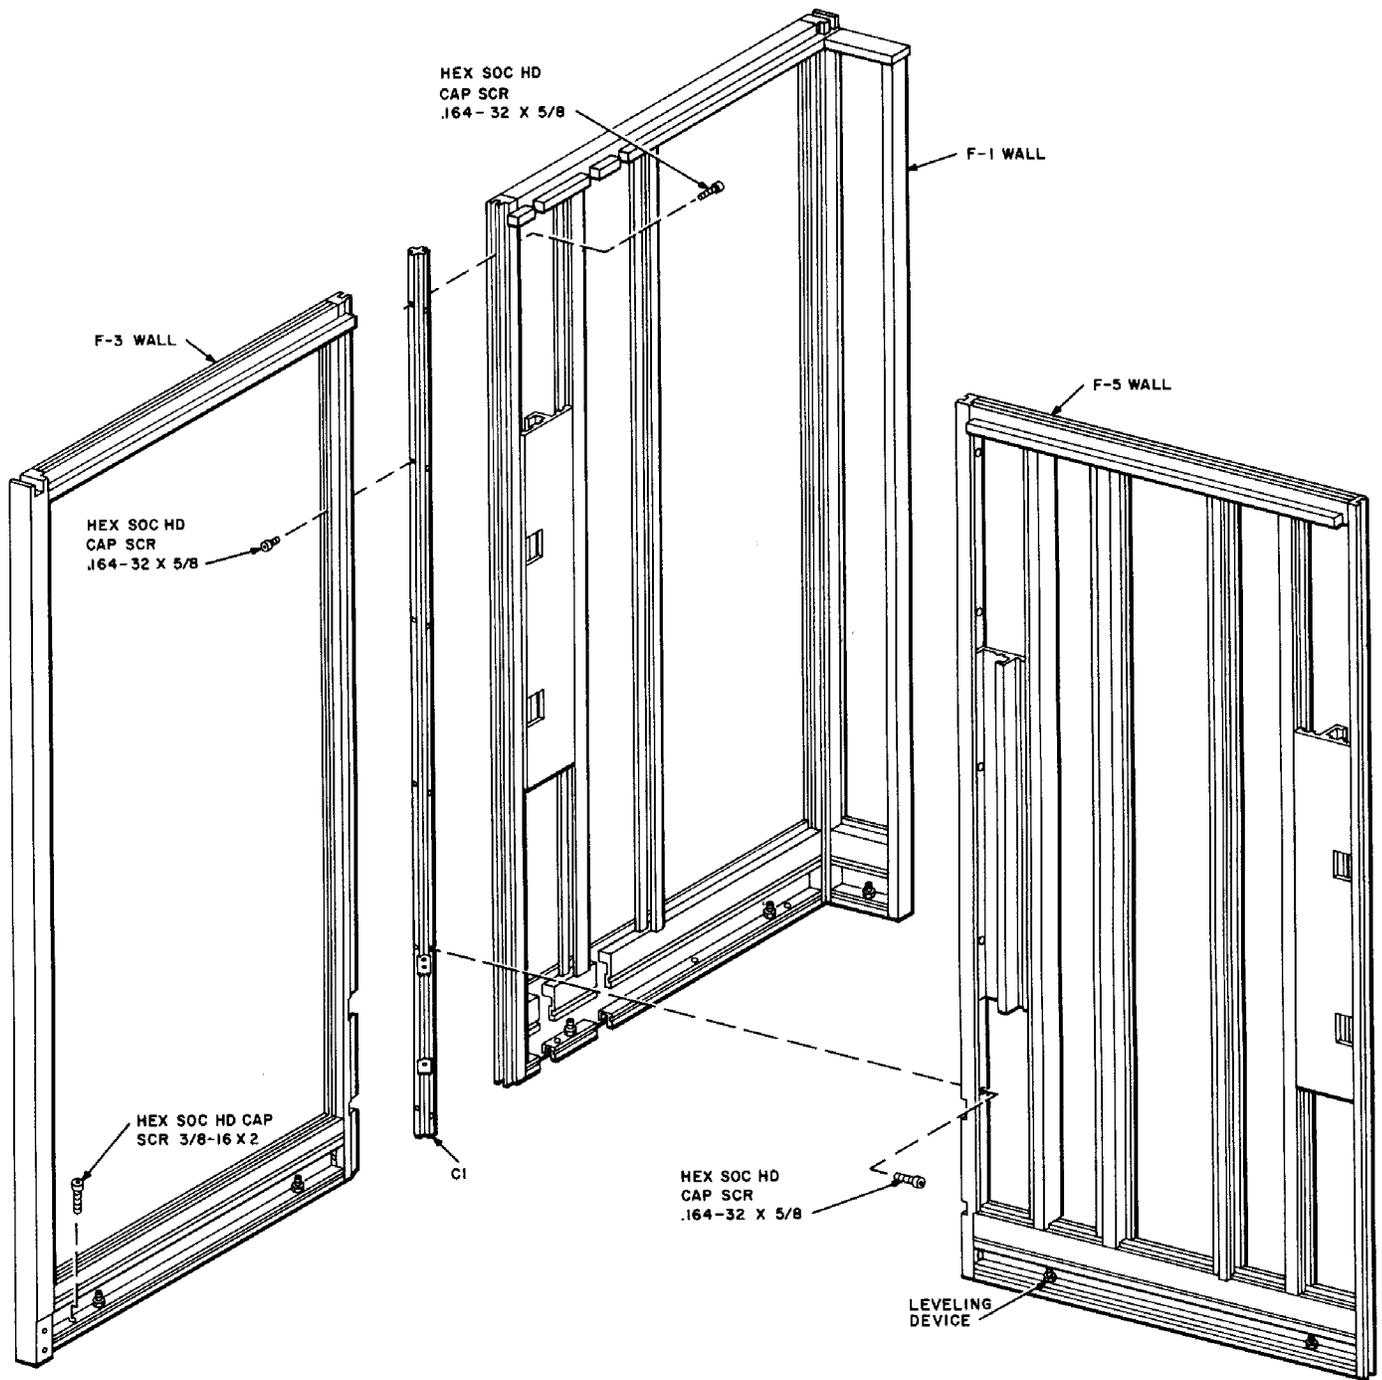

Fig. 25 — Assembly of F-1, F-3, and F-5 Walls
- (a) Place one F-3 wall frame (Fig. 25) in position for the left wall of the prime booth.